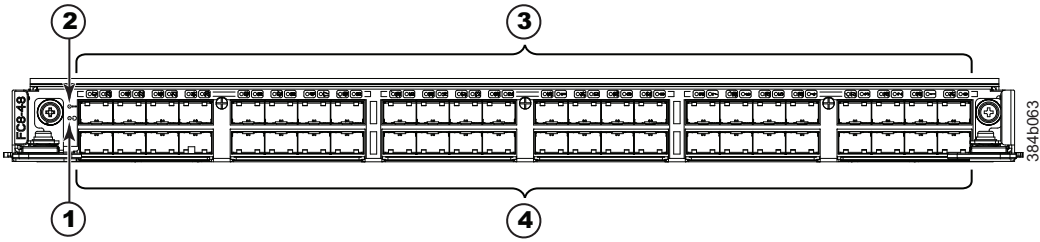

Figure 57. FC8-48 port blade
- Figure 57 on page 158 shows an FC8-48 port blade